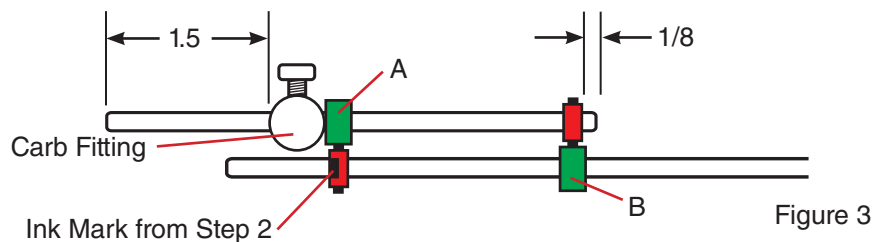

Figure 3
- Slip iTroll's stainless steel throttle rod through carb fitting and through slip connectors as shown in Fig. 3.
- Move iTroll throttle rod so that it sticks out 1.5 inches to the LEFT of the carb fitting (see Fig. 3 & 4).
- HOLD slip connector "A" in Fig 3 against brass carb fitting.